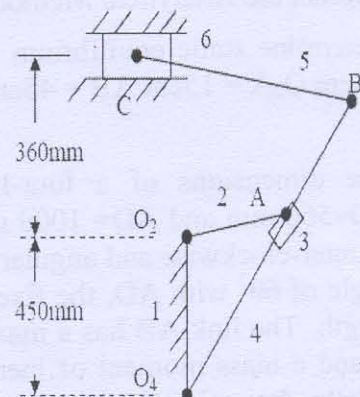

Fig.2
- Q5 (a)** Fig.2 shows a quick return mechanism. Determine velocity and acceleration of link 4 (O_4A), link 5 (BC) and link 6 (Slider). Crank rotates at 200 r.p.m. $O_2A=140\text{mm}$, $O_4B=800\text{mm}$, $BC=250\text{mm}$, $\angle AO_2O_4 = 120^\circ$. Use vector method. 12